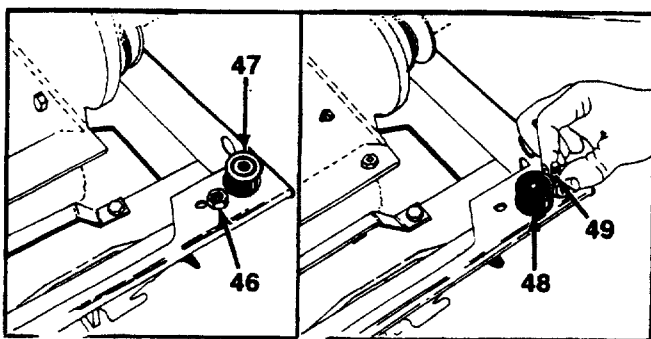

FIGURE 24.
27. Upon reassembly of iso/mounts, they must be installed as shown in figure 24.